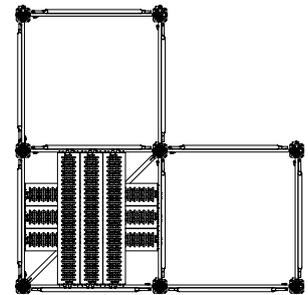

Fig. B1.08
- Connecting the scaffold towers with other system components to form stable units. Fig. B1.08